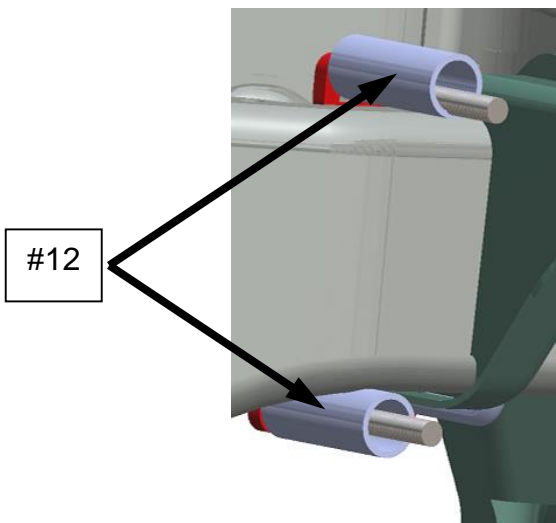

Figure 8
8. Slide spacer tubes (#12) over carriage bolts (#7). See Figure 8.